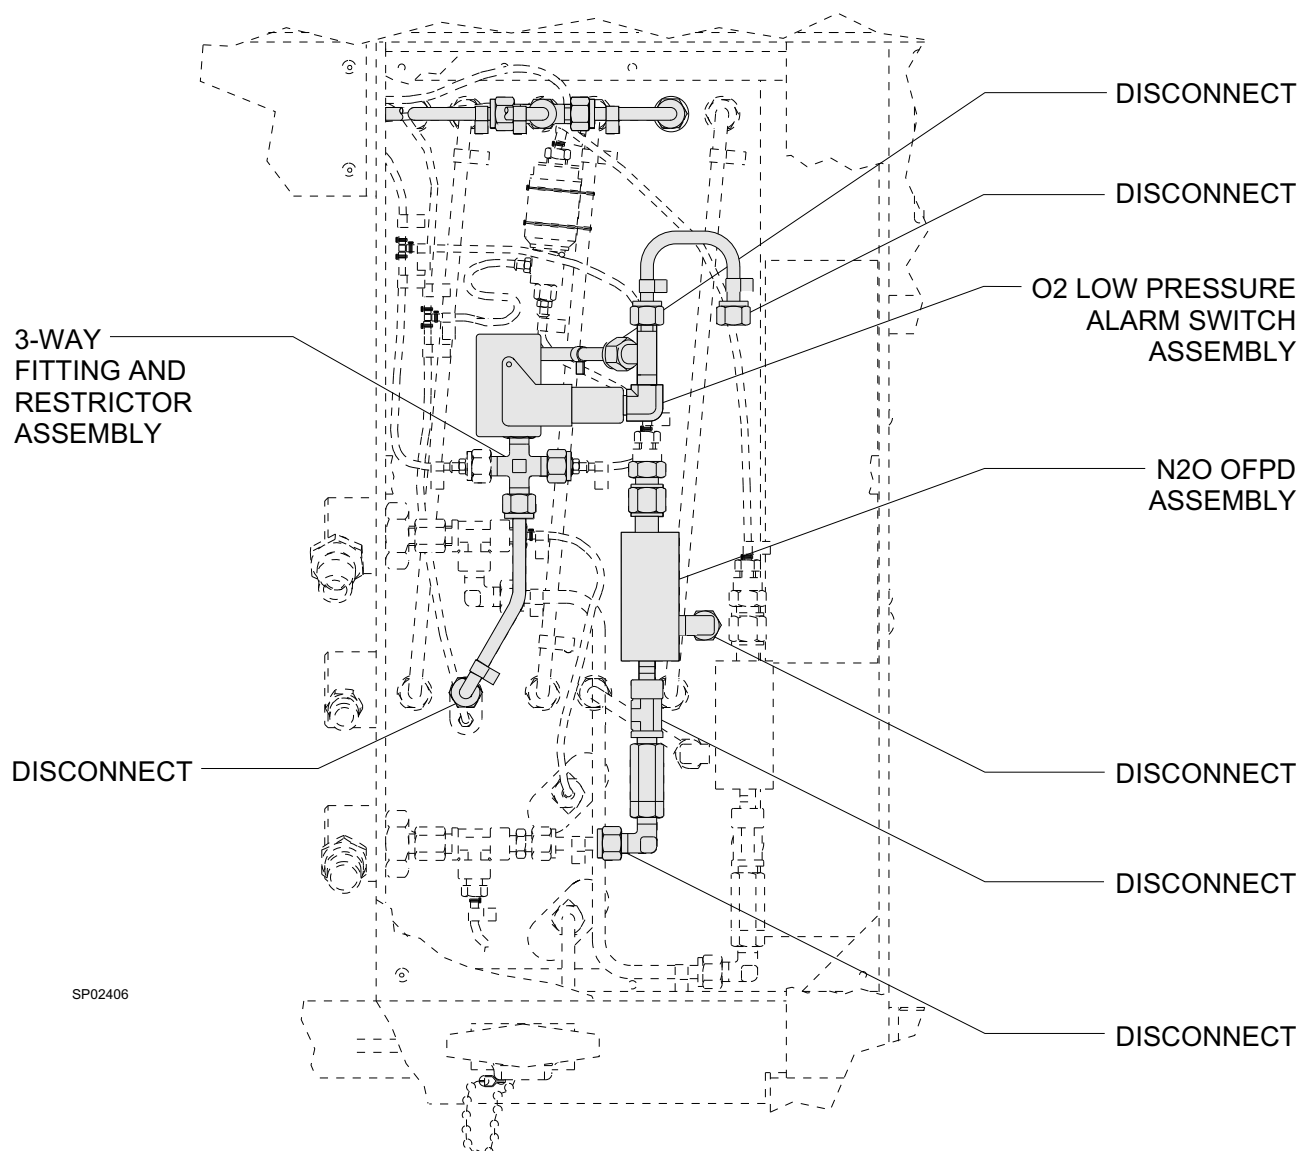

Figure 6: ASSEMBLIES TO BE REMOVED
31. Remove the three wires connected to the O₂ low pressure alarm switch, and remove the alarm switch assembly by disconnecting the fittings indicated in Figure 6.
32. Remove the N₂O OFPD (failsafe) assembly by disconnecting the fittings indicated in Figure 6.
43. Install the 4-way fitting and restrictor assembly (ref. Figure 6) by connecting its lower tube to the O₂ flowmeter inlet.